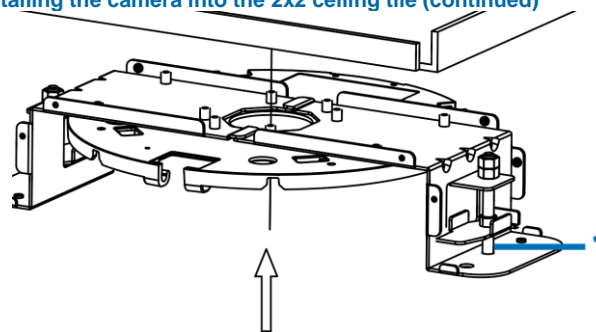

Figure 8
- Use a screwdriver to turn the 'locking' screws (1) (Figure 8) on **both** recess mount brackets clockwise to fully extend the 'swing out' mounting clips and seat them tightly against the top surface of the ceiling plate.